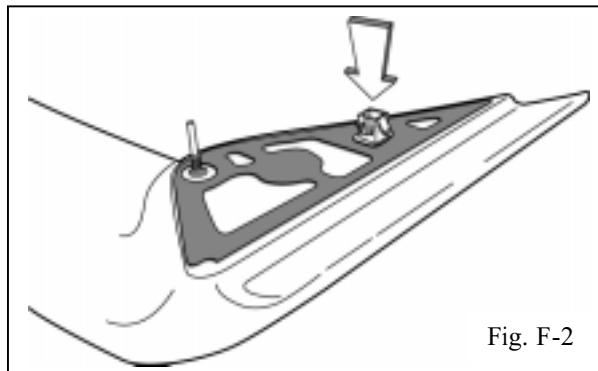
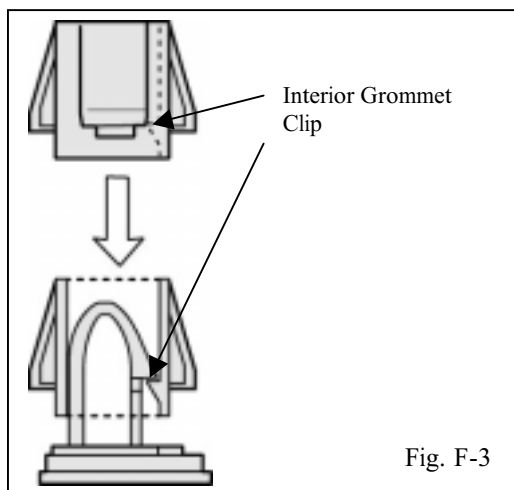

Fig. F-2
Fig. F-3
3. Place a plastic grommet on to the plastic studs toward the front of each spoiler footprint. (Fig. F-2 & Fig. F-3)